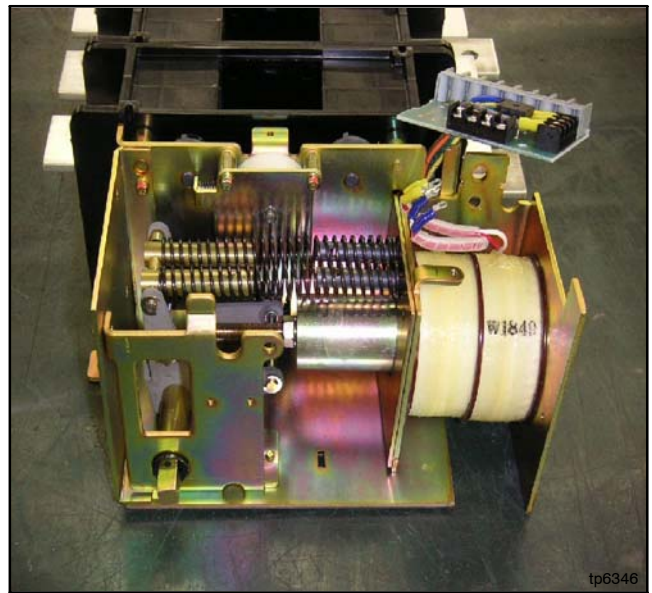

Figure 7-29 Remove the frame with the coil from the mechanical unit
3. Remove the frame with the coil from the mechanical unit. See Figure 7-29 and Figure 7-30.